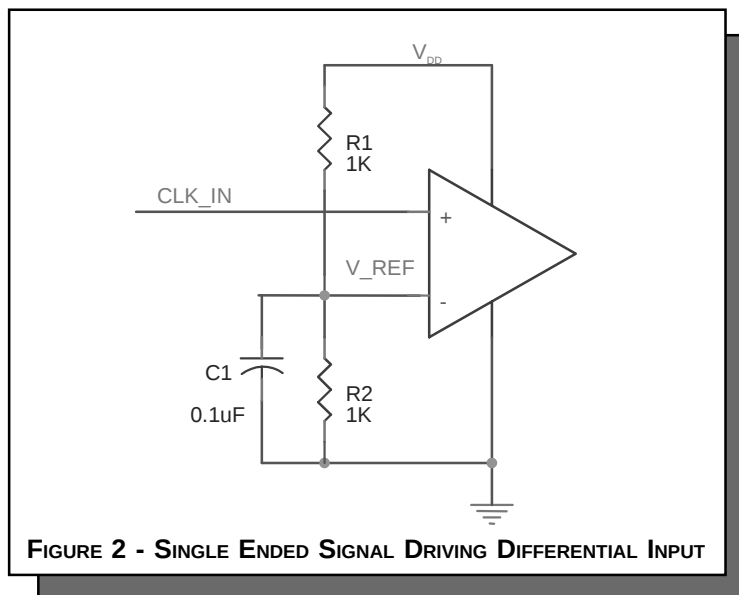

FIGURE 2 - SINGLE ENDED SIGNAL DRIVING DIFFERENTIAL INPUT
*Figure 2* shows how the differential input can be wired to accept single ended levels. The reference voltage  $V_{REF} = V_{DD}/2$  is generated by the bias resistors  $R1$ ,  $R2$  and  $C1$ . This bias circuit should be located as close as possible to the input pin. The ratio of  $R1$  and  $R2$  might need to be adjusted to position the  $V_{REF}$  in the center of the input voltage swing. For example, if the input clock swing is only 2.5V and  $V_{DD} = 3.3V$ ,  $V_{REF}$  should be 1.25V and  $R2/R1 = 0.609$ .